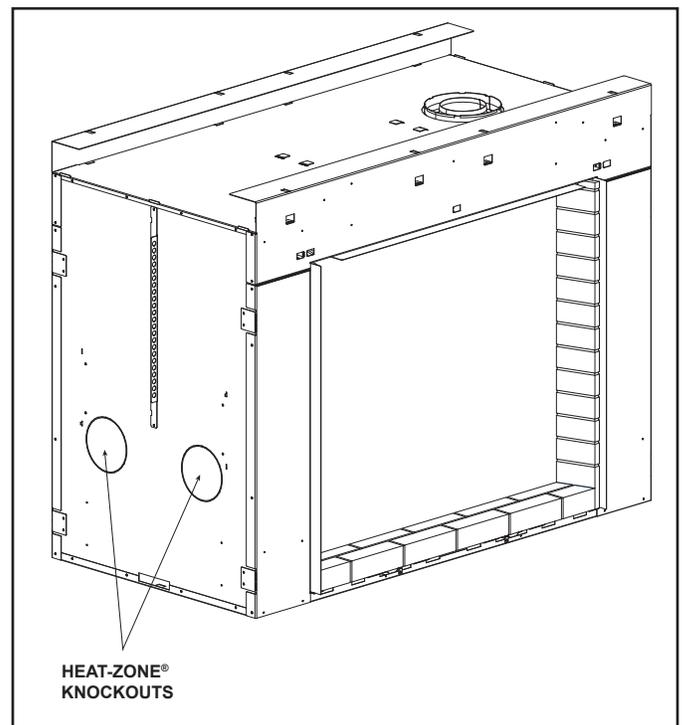

Figure 14.8 Heat-Zone® Gas Knockouts.
- Remove the knockout from the side of the appliance and discard it (see Figure 14.8).